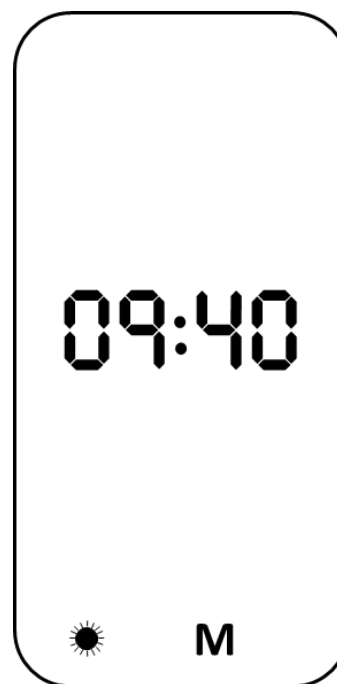

Fig. 3-5 Example: display after successful self-test (**M**= BP data in memory,  measuring phase: day)
- whether data are stored in the BP monitor (**M**) (Fig. 3-5).